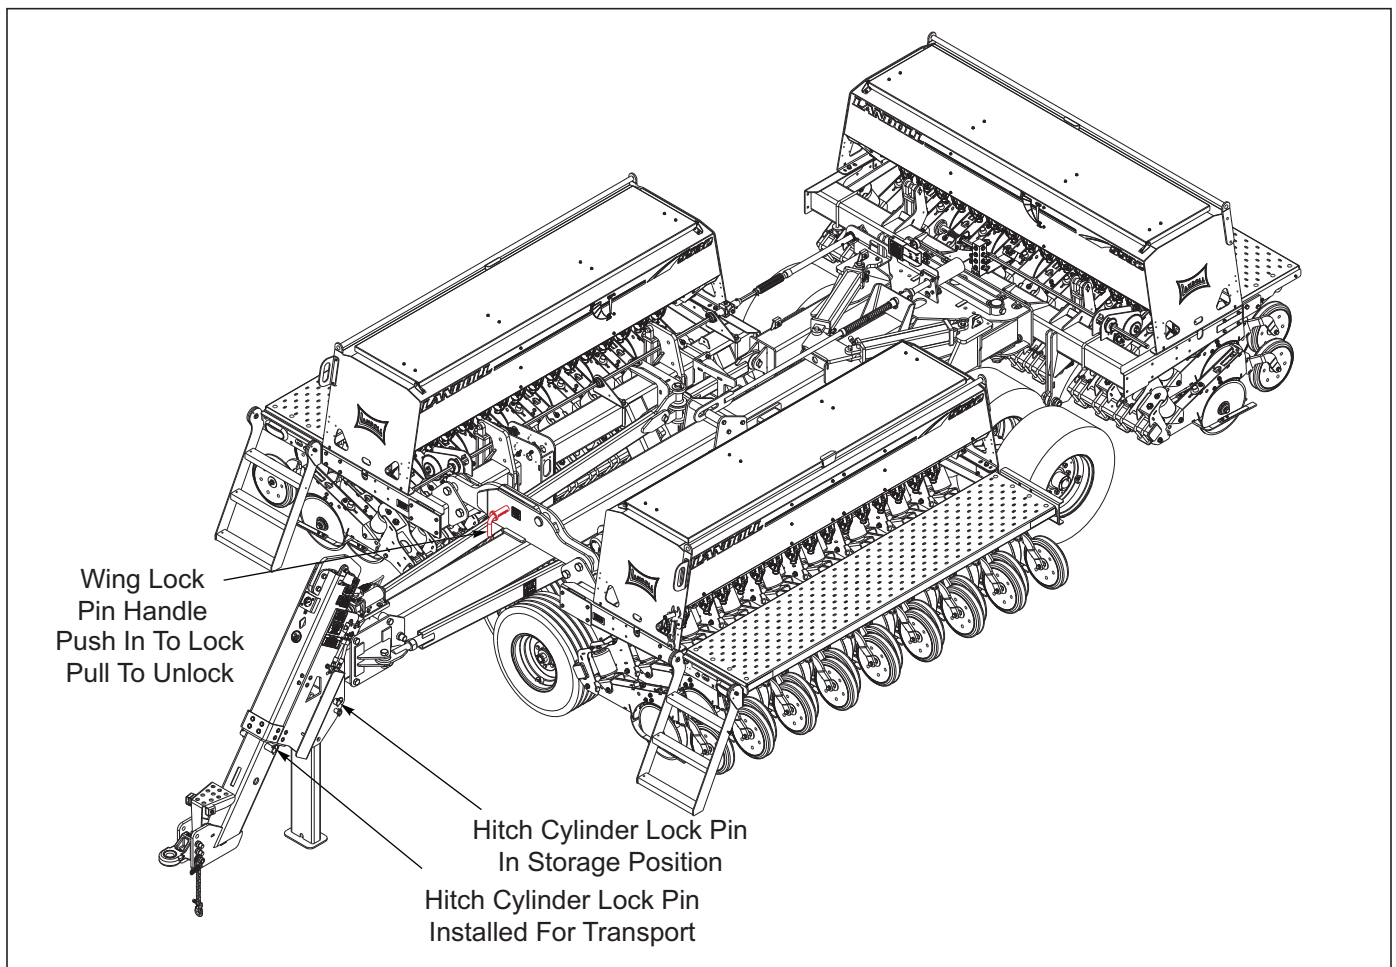

Figure 4-2: Hitch Cylinder and Wing Locks
2. To install the telescoping hitch cylinder pin lock, fully raise the main lift and hitch. Remove the pin from the storage position and install through the hole in the telescoping hitch *See Figure 4-2*. Leave the weight of the drill on the hydraulic system while transporting. The pin will prevent any uncontrolled dropping of the hitch.
3. After folding the drill and raising the hitch, install the wing lock pin in the wing fold lock over the top of the hitch *See Figure 4-2*. Rotate the handle counter clockwise to release the handle. Push the handle in to lock the wings, and pull the handle out to unlock the wings. Rotate the handle clockwise to secure the handle in the desired position. This will insure the fold locks do not come apart while transporting.
- c. Remove hitch cylinder lock pin from telescoping hitch and wing fold lock and place in storage locations **See Figure 4-2.**
- e. Install cylinder lock pins in the telescoping hitch and wing lock to secure the Grain Drill **See Figure 4-2.**